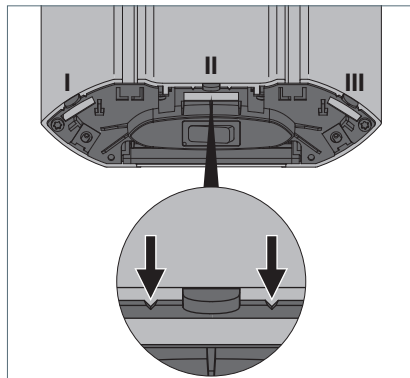

Fig. 1: Preparing the cable bushing.
- Use pliers to remove the cable bushing cover at the notches in position I, II or III, where you wish the connecting cable to emerge from the luminaire, see Fig. 1